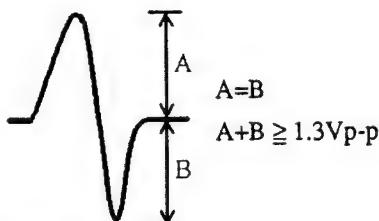

Fig. 8
3. When the TRACK FWD  $\gg$  key is pressed while observing the oscilloscope screen, the waveform shown in Fig. 8 can be observed instantaneously. Confirm that the amplitude in this state is 1.3 Vp-p or more and that the amplitude is nearly equal on positive and negative sides. Since the waveform appears only instantaneously when the TRACK FWD  $\gg$  key is pressed, repeat pressing this key until confirmation of the waveform is completed.